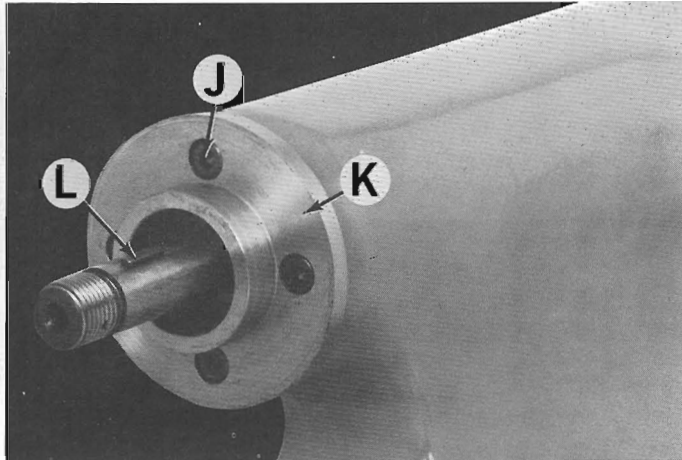

Figure 174 — End Cap for Tailstock
- (E). Remove four screws "J", Figure 174, and remove end cap "K". Remove key "L".
- (F). Replace key "L", Figure 174, and replace end cap "K". Replace four screws "J", tightening alternately and evenly to prevent any bind on bearing.